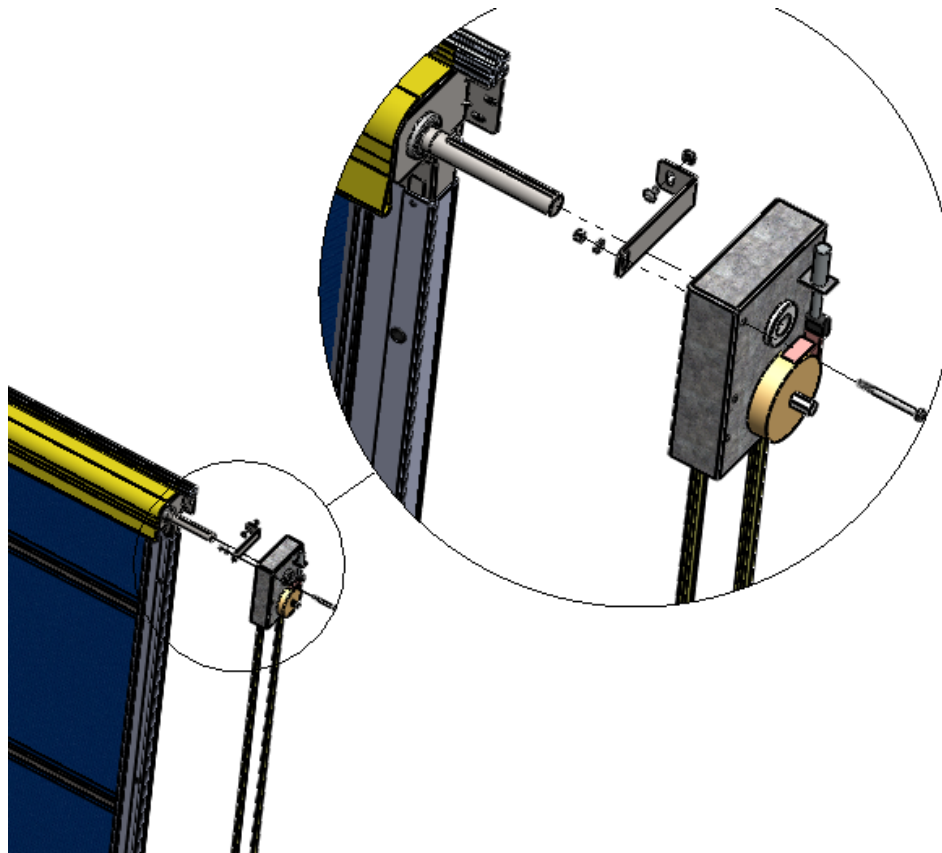

Figure 8 INSTALL CHAIN HOIST
2. Insert the provided 1/4" Sq. Key stock into the Chain Hoist Key Way, and slip the Chain Hoist Operator onto the 1" Dia. Drive Shaft. (Figure 8 INSTALL CHAIN HOIST)